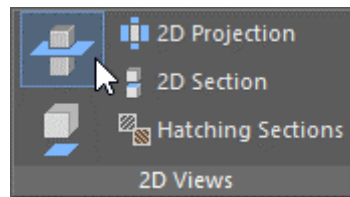

Fig. 13. The Section command
4.1. Click **Section** on the **3D Tools** tab to create a 3D section (Fig. 13). Then go to the **3D History** and open **GCS** to specify the **YZ** plane.